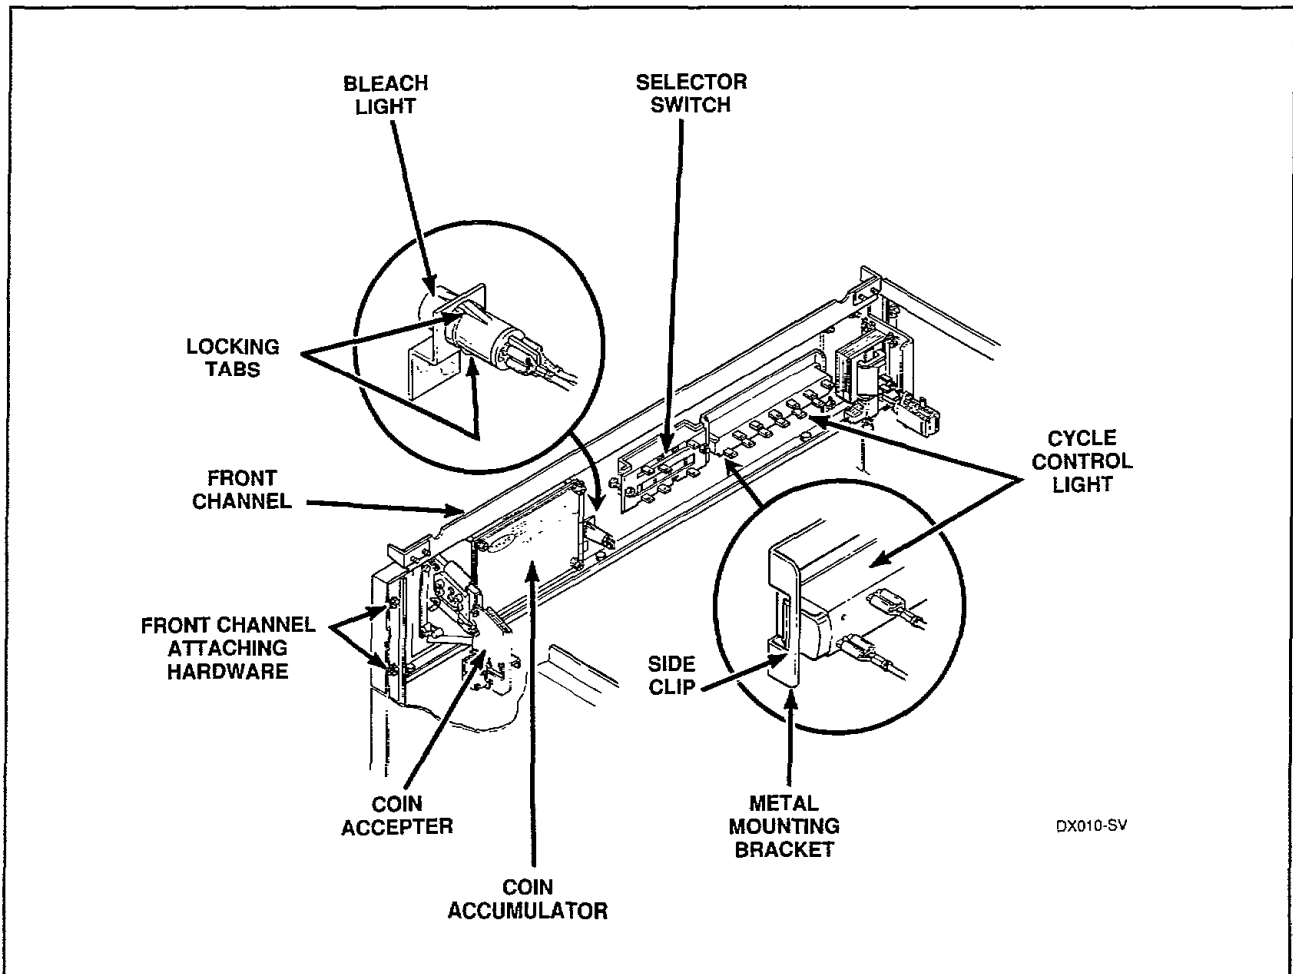

Figure 13
- f. Remove attaching hardware holding front channel to side panel, *Figure 13*.
- d. Remove two nuts holding selector switch to backside of front channel, *Figure 13*.
- c. Using number 93501 Torx Drive Tool, remove the four Torx screws, lockwashers and nuts holding coin acceptor to front channel, *Figure 13*.
- c. Remove nuts holding plastic shield to backside of coin accumulator and remove shield, *Figure 13*. Then remove nuts holding coin accumulator to backside of front channel, *Figure 13*.
- c. Release side clips on metal mounting bracket and remove light bank, *Figure 13*.
- d. Squeeze locking tabs in on light housing and remove light from backside of front channel, *Figure 13*.